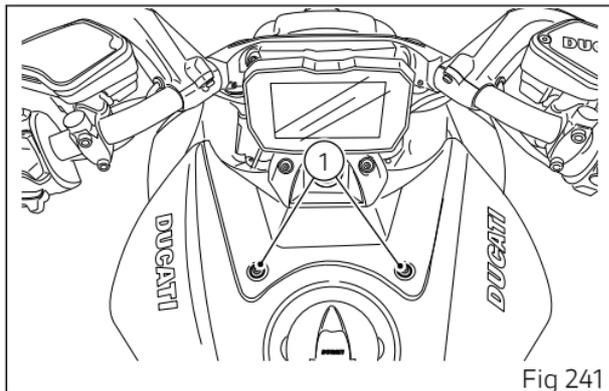

Fig 241
To reposition the tank cover, first carefully insert the pins (6) and close the cover by pressing it at the rear. Tighten the cover with the screws (1, Fig 241) previously removed.